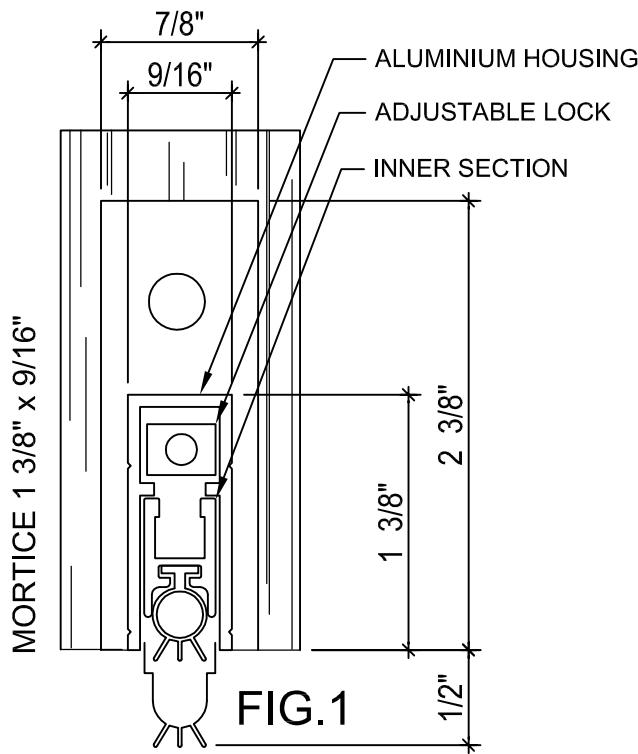

FIG.1
1. Remove and machine mortice bottom of door $1\frac{3}{4}'' \times \frac{9}{16}''$ (FIG. 1).